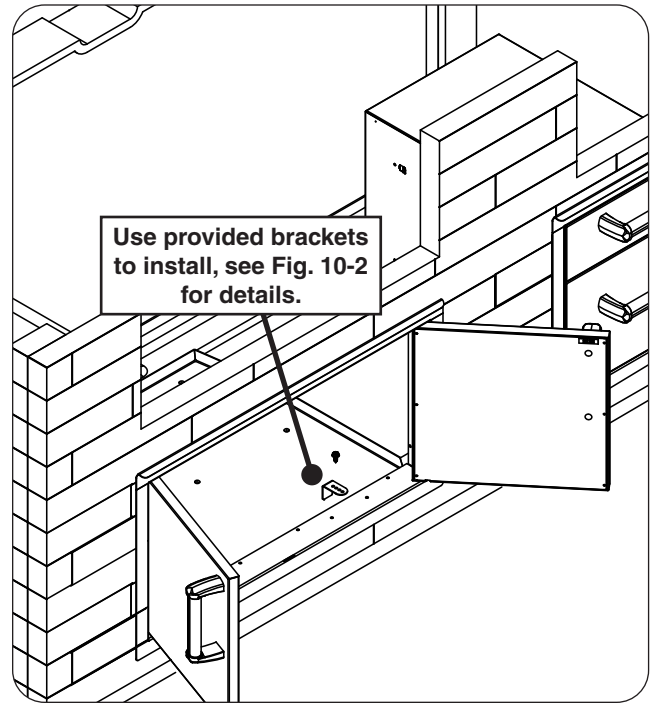
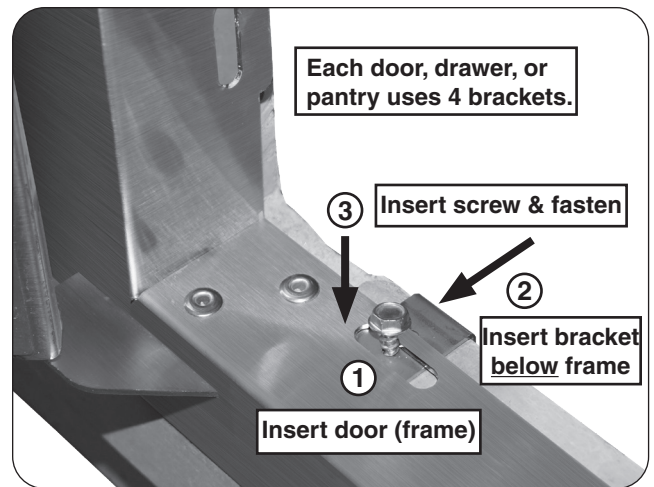
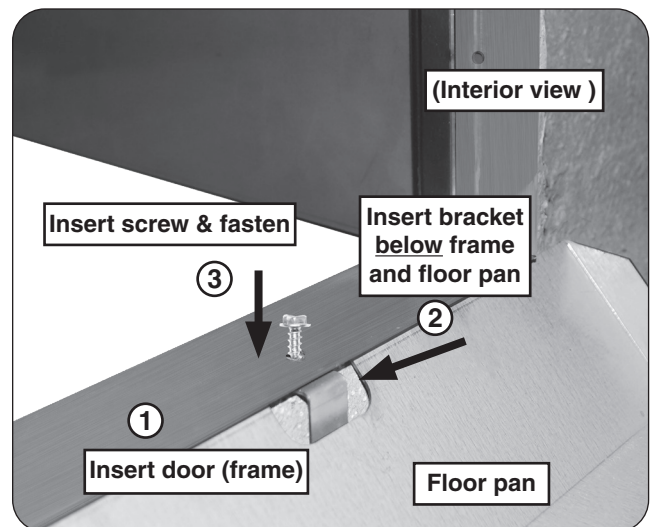

Fig. 10-1 Door/drawer install detail
Fig. 10-2 Door/drawer install detail
Fig. 10-3 Door/floor pan install detail
1. Insert your unit completely into the appropriate opening. Ensure it is flush against the exterior wall (see Fig. 10-1, and Fig. 10-2 or Fig. 10-3, step 1).
2. The unit will have 2 oblong cutouts (or round holes) on both the top and bottom of its frame. Reach from within the island and insert a bracket where a cutout exists, **below the frame**. See Fig. 10-2 or Fig. 10-3, step 2.
Note: When installing the double door ensure the bracket is inserted **below the frame AND floor pan** (see Fig 10-3, step 2).
3. While squeezing the rear of the bracket and the front of the frame **firmly** against the concrete wall, insert a hex screw and tighten with the power drill and $\frac{5}{16}$ " hex driver (see Fig. 10-2 or Fig. 10-3, step 3). **DO NOT OVERTIGHTEN.**